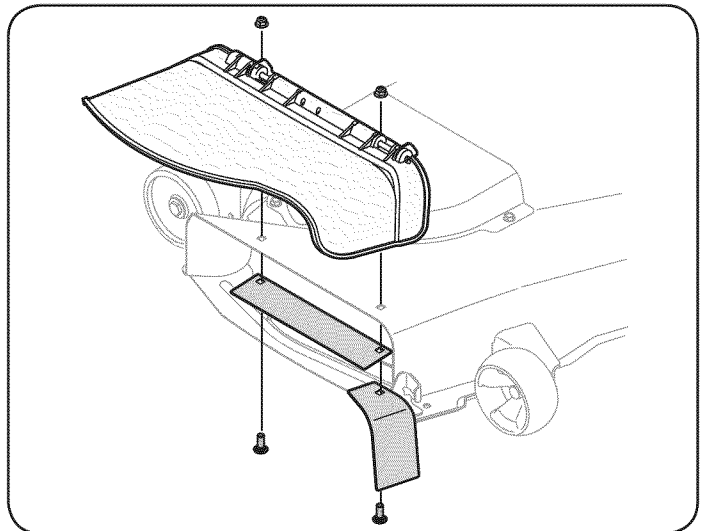

Figure 19
- Install the chute discharge plate, and the front chute discharge plate, to the bottom side of the deck opening, as seen in Fig. 19, using two carriage bolts (710-3168) supplied in hardware pack 689-00163.